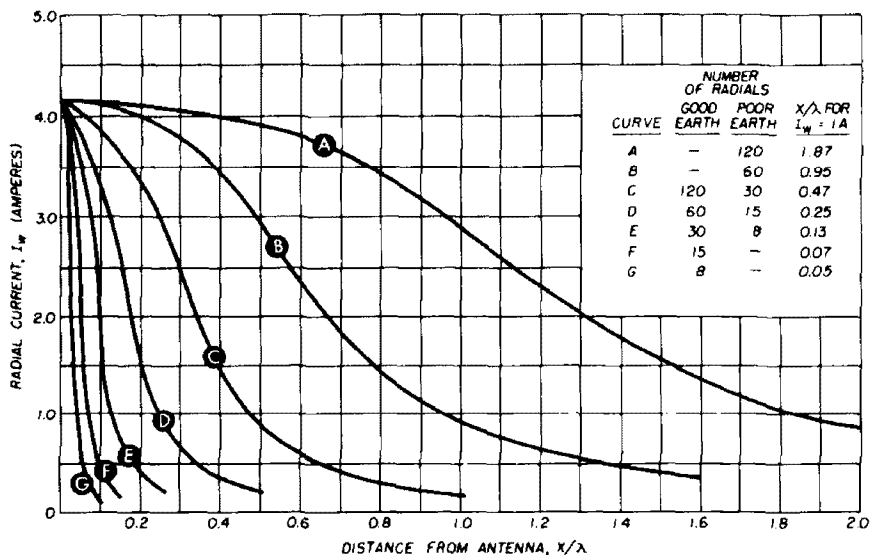

fig. 1. Radial current vs distance from antenna for different numbers of radials in poor and good earth.
fig. 1. Vertical plane patterns for quarter-wave vertical tilted away from the normal by an angle of 45 degrees (A) and horizontal dipole at a height of $\frac{3}{8}$ wavelength (B). The patterns for an arbitrary azimuth bearing fall within the width of the solid curve for the tilted vertical (A) and within the shaded region for the horizontal dipole (B). Perfect ground is assumed for both cases.
A graphical summary of the theoretical performance of a tilted vertical and horizontal dipole is presented in **fig. 2**. The curves of relative signal strength incorporate not only the variation in radiated field strength of the ground station antennas shown in **fig. 1** but also the varying distance separating the antenna and the satellite as elevation angle changes during a pass. It is convenient to arbitrarily normalize all curves to zero dB at an elevation angle of 90 degrees. Therefore, comparisons between different antennas should be restricted to relative changes in signal strength for corresponding changes in elevation angle. **Fig. 2** indicates that a vertical tilted 30 to 45 degrees provides a response which varies less than 6.0 dB, even for an overhead pass. Tilt angles which fall outside this range cause antenna performance to deteriorate.
To design the radial system you need to know how many radials to use and how long they should be. A look at how the radial currents drop off as you go further from the antenna provides the necessary information. This is illustrated in fig. 1, which shows radial current (I_w
You can see from fig. 1 that long radials should be used with a large number of radials, and vice versa. Therefore, this situation for vertical antenna radiation is somewhat different from that of obtaining a low ground resistance where you can trade-off number of radials for length of radials. The proper radial length depends upon the number used, local
Table 2 shows that, if you have poor earth, the radials should be two to four times longer than for conditions of good earth. There is, of course, no harm in using longer radials, and you can use fig. 1 as a guide for your own location.